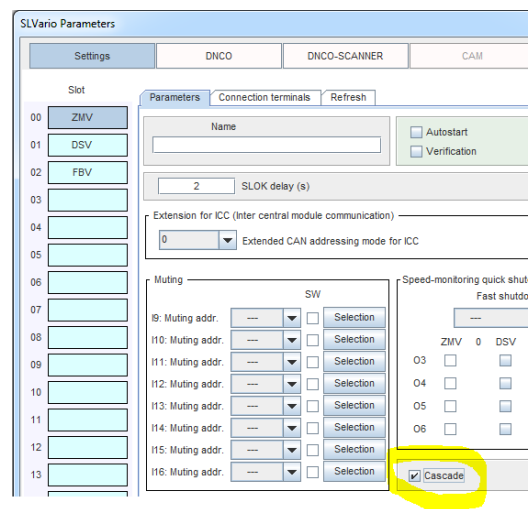

Fig. 31-1
- To activate cascading, select the "Cascade" checkbox in the settings for the central module ("Parameters - Tables" menu). (Fig. 31-1)